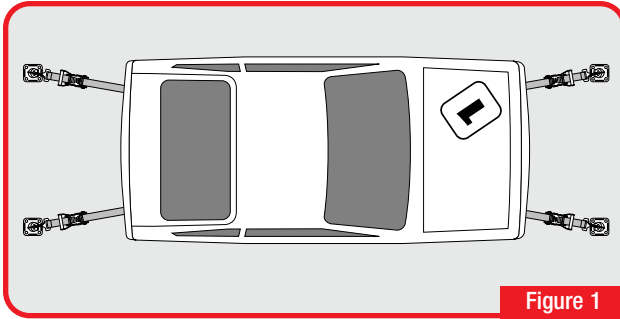

Figure 1
- 1 Always use (2) front and (2) rear tie-downs as shown in Figure 1.